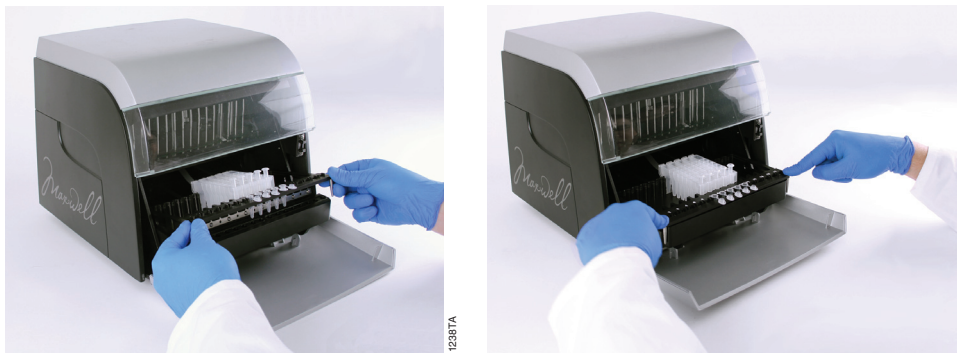

Figure 53. Place the deck tray in the instrument.
- Place the deck tray in the instrument as shown in Figure 53. Ensure that the deck tray is completely seated inside the instrument.